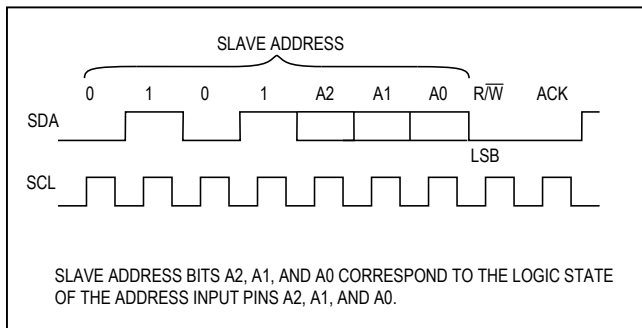
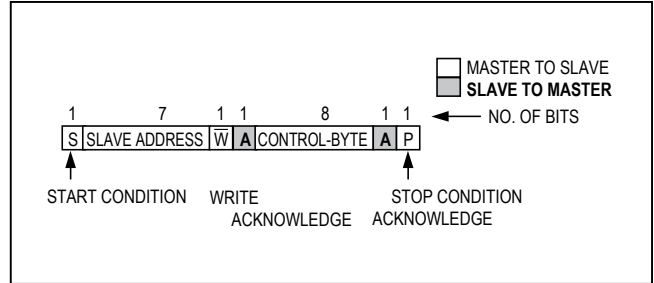
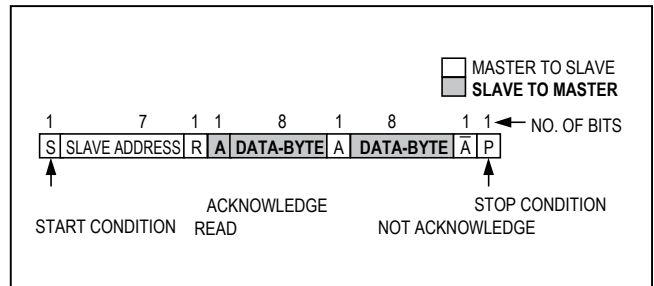
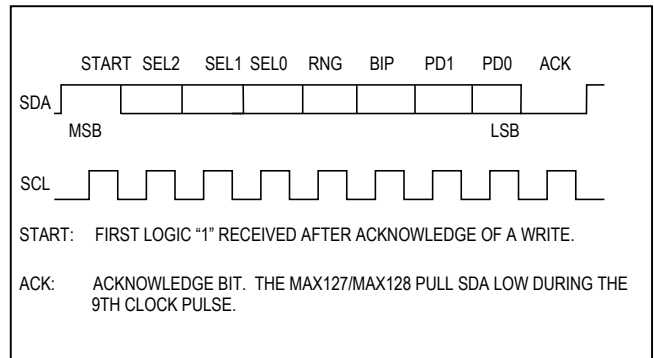

Figure 3. Address Byte
Figure 6. Write Cycle
Figure 7. Read Cycle
Figure 8. Command Byte
The MAX127/MAX128 have a 7-bit-long slave address. The first four bits (MSBs) of the slave address have been factory programmed and are always 0101. The logic state of the address input pins (A2–A0) determine the three LSBs of the device address (Figure 3). A maximum of eight MAX127/MAX128 devices can therefore be connected on the same bus at one time.
A conversion cycle begins with the master issuing a START condition followed by seven address bits (Figure 3) and a write bit ( $R/\bar{W} = 0$ ). Once the eighth bit has been received and the address matches, the MAX127/MAX128 (the slave) issues an acknowledge by pulling SDA low for one clock cycle ( $A = 0$ ). The master then writes the input control byte to the slave (Figure 8). After this byte of data, the slave issues another acknowledge, pulling SDA low for one clock cycle. The master ends the write cycle by issuing a STOP condition (Figure 6).
Once a conversion starts, the master does not need to wait for the conversion to end before attempting to read the data from the slave. Data access begins with the master issuing a START condition followed by a 7-bit address (Figure 3) and a read bit ( $R/\bar{W} = 1$ ). Once the eighth bit has been received and the address matches, the slave issues an acknowledge by pulling low on SDA for one clock cycle ( $A = 0$ ) followed by the first byte of serial data (D11–D4, MSB first). After the first byte has been issued by the slave, it releases the bus for the master to issue an acknowledge ( $A = 0$ ). After receiving the acknowledge, the slave issues the second byte (D3–D0 and four zeros) followed by a NOT acknowledge ( $\bar{A}=1$ ) from the master to indicate that the last data byte has been received. Finally, the master issues a STOP condition (P), ending the read cycle (Figure 7).